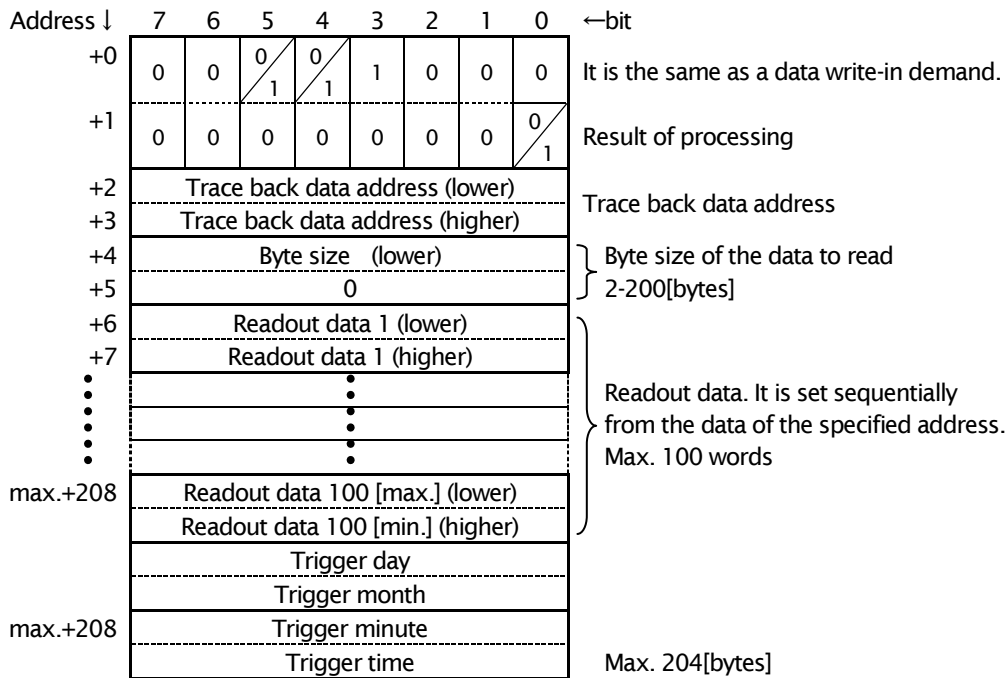

Figure 3.19 Data composition of the master station data readout check SDU (Protection history readout result)
- 4) As a data readout demand, OPCN66-Z gives a S/F (success or failure of processing) bit to 1st word, and replies the trace back data and 2 words trigger time information to read from the inverter (figure 3.19). Keep in mind that 4 bytes increases more than the byte size directed by the above 1). 100 words trace back data is transmitted at the maximum at once.
- 3) As a data readout demand, OPCN66-Z gives a S/F (success or failure of processing) bit to 1st word, and replies monitor data (figure 3.19). 25 words monitor data is transmitted at once. The contents of monitor data are shown in Table 3.13. It is the same as that of the monitor item displayed on a console. For details, refer to the instructions manual of the main part of VF66 inverter.